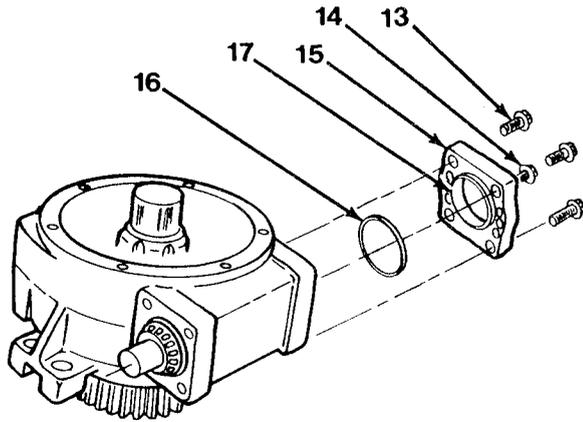
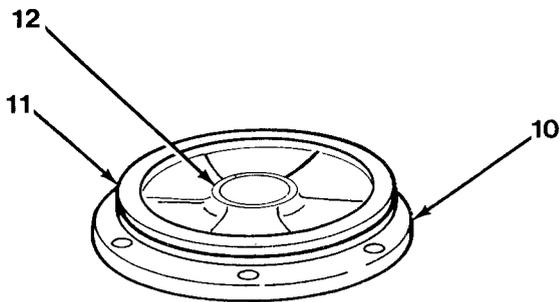

Figure 15-4
Figure 15-3
16. Install seal (17) and O-ring (16) on bearing retainer (15, Figure 15-4).
17. Install bearing retainer (15) with four lock-washers (14) and capscrews (13). Torque capscrews (13) to 58 lb-ft (79 N•m). Worm should rotate freely by hand.
18. Install bushing (12) and O-ring (11) on cover (10, Figure 15-3).